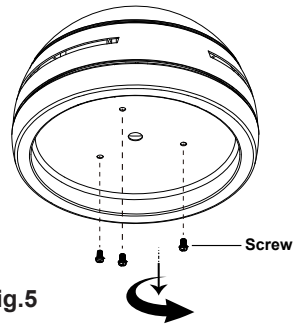

Fig.5
- Step 1 Turn the Screws counterclockwise to loosen the light kit.(Fig. 5)